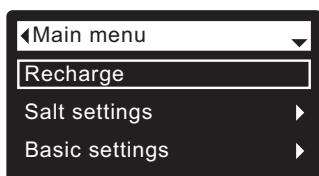
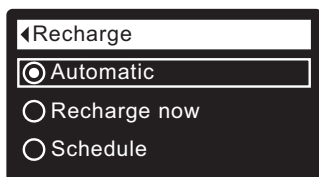
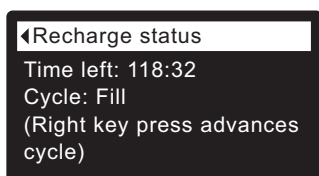

FIG. 43
FIG. 44
FIG. 45
2. Make sure **Recharge** is highlighted (See Figure 43).
3. Press the SELECT (O) button to display the Recharge menu (See Figure 44).
4. If the desired option already has a dot next to it (See Figure 44), go to Step 5. Otherwise, press the DOWN (▼) or UP (▲) buttons to scroll to the desired option, then press SELECT (O) to choose it.
- **Recharge now** begins a recharge immediately after the SELECT (O) button is pushed again in Step 5.
5. Press the SELECT (O) button. If **Recharge now** is selected, the display immediately goes to the Recharge status screen (See Figure 45). If **Automatic** or **Schedule** are selected, the display goes back to the Main menu (Figure 43).